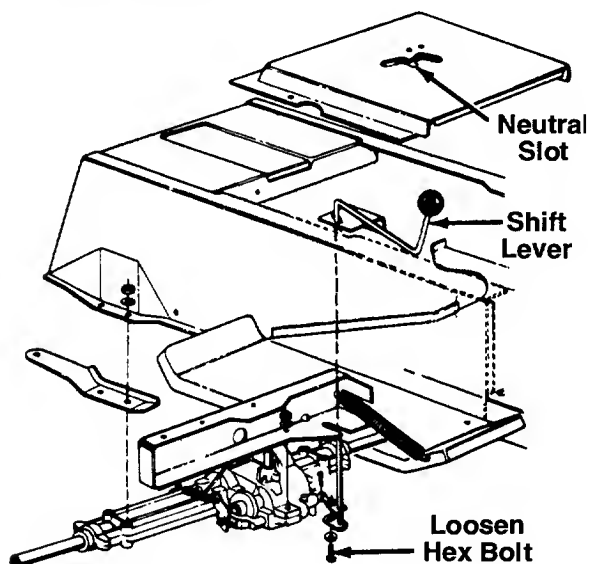

FIGURE 14.
2. Loosen the bolt which secures the shift lever assembly to the shift lever link. See figure 14.
3. Place the shift lever in the neutral slot. See figure 14.